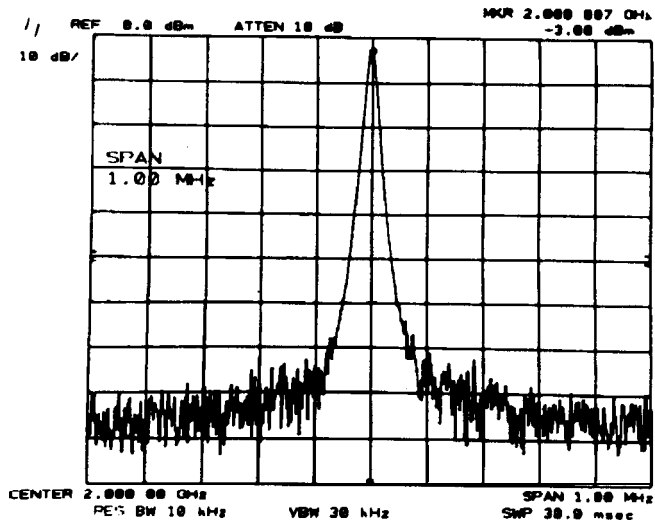

Figure 2-2. Center Frequency Accuracy Measurement
8. Record the **CENTER FREQUENCY** readout in the table for each setting. The limits for this frequency are given in the table. Refer to Figure 2-2.